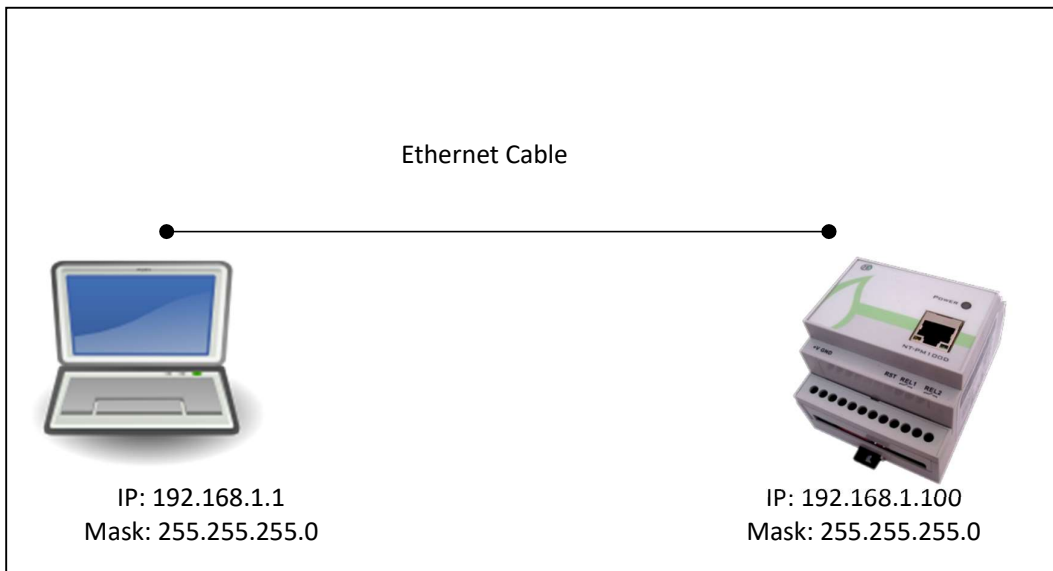

Figure 3 Default Ethernet network configuration
1. Connect one end of the Ethernet cable to the Ethernet interface of the NTPM device, and the other end of the cable to the PC Ethernet interface (Figure 3).